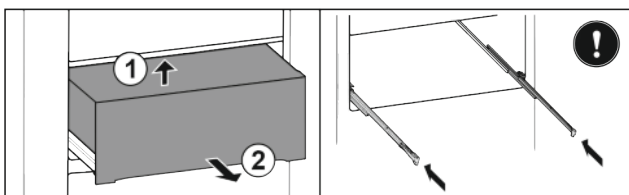

Fig. 36
- ▶ Lift up at the back from below Fig. 36 (1).
- ▶ Take off to the front Fig. 36 (2).